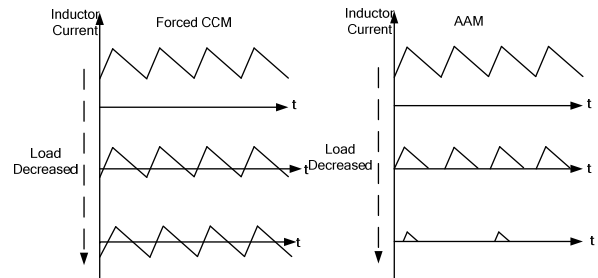

Figure 3: Forced CCM and AAM
Under normal-load conditions, the controller operates in full pulse-width modulation (PWM) mode (see Figure 3). At the beginning of each oscillator cycle, the top gate driver is enabled. The top gate turns on for a period determined by the duty cycle. When the top gate turns off, the bottom gate turns on after a dead time and remains on until the next clock cycle begins.
The MPQ2908A employs advanced asynchronous mode (AAM) functionality to optimize efficiency during light-load or no-load condition (see Figure 3). AAM is enabled when CCM/AAM is at a low level by connecting an appropriate resistor to SGND to ensure that the AAM voltage (V_{AAM}) is no less than 480mV. See Equation (1):